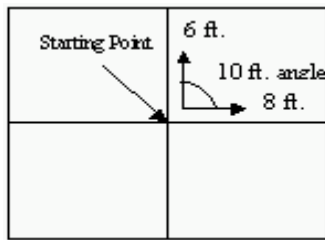

Figure 1
4. After selecting the starting point, snap chalklines that bisect this point at right angles. To achieve a perfect angle, which is critical, form a triangle by measuring 6’ up from the center point. Then measure 8’ out from the center point. Then, find a 10’ angle between these two points. (See Figure 1.)